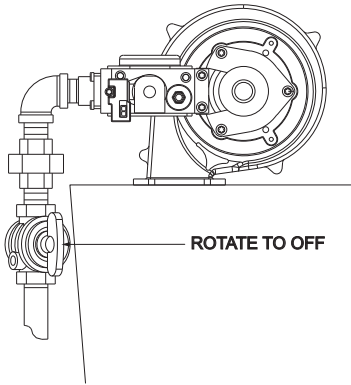

Figure 46. Shut-Off Valve & Venturi Location 88AR thru 108AR
3. Turn Supply Gas OFF and/or turn the Manual Valve to the OFF position. See Figure 46.